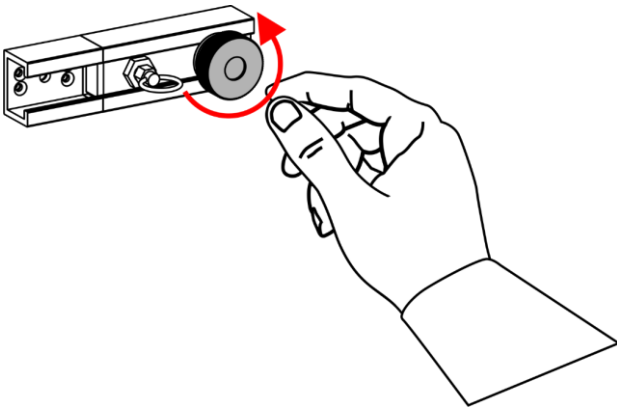

Fig. 11
- 02) Loosen the adjustment screw counterclockwise on the connection mechanism (16), as shown in Fig. 11.